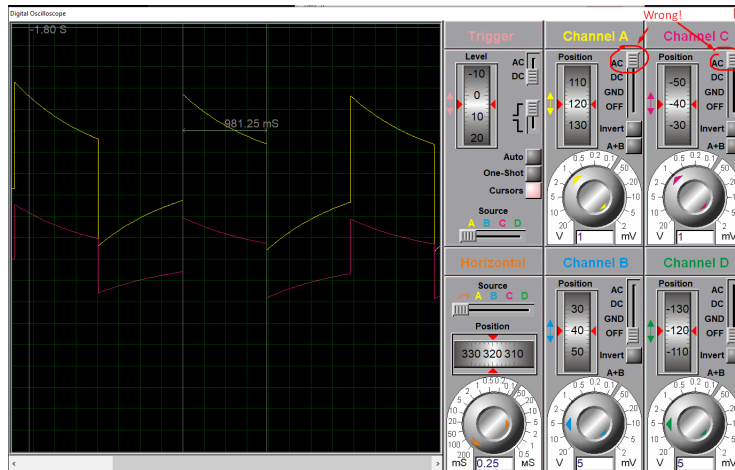
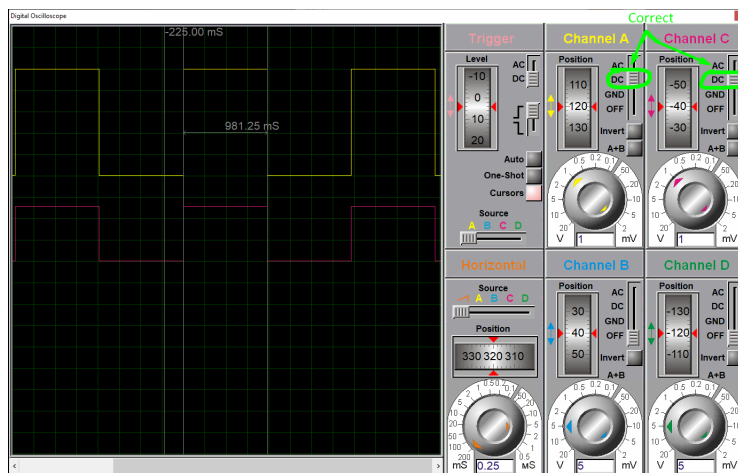

Figure 2: When AC coupling mode is used. As seen, the signal is distorted.
Figure 4: When DC coupling mode is used. As seen, we observe the square wave correctly.
**About AC/DC Scope Coupling in Proteus:** For this homework, strictly use DC coupling on all channels. Otherwise, if left in AC coupling, the scope's internal "hidden DC-block capacitor" will try to block the low-frequencies that we are trying to generate (for detailed explanation: link1. link2.). In summary, the distortions happen when you leave the channels in AC coupling mode; please check Figure 2 and Figure 4 for illustration.